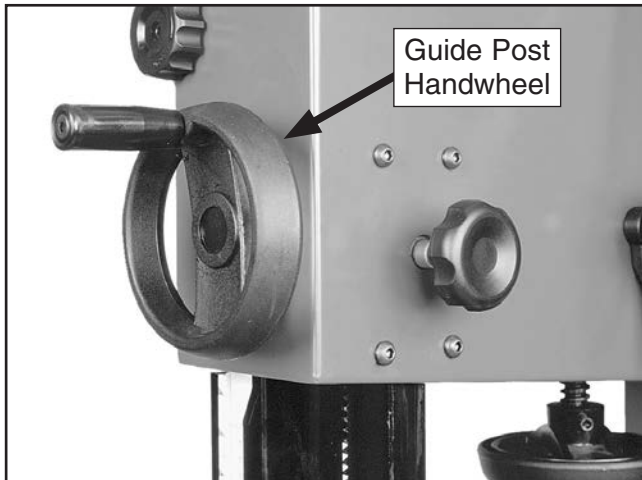

Figure 21. Guide post handwheel installed.
1. Secure the guide post handwheel onto the handwheel shaft flat with the included set screw (see **Figure 21**).